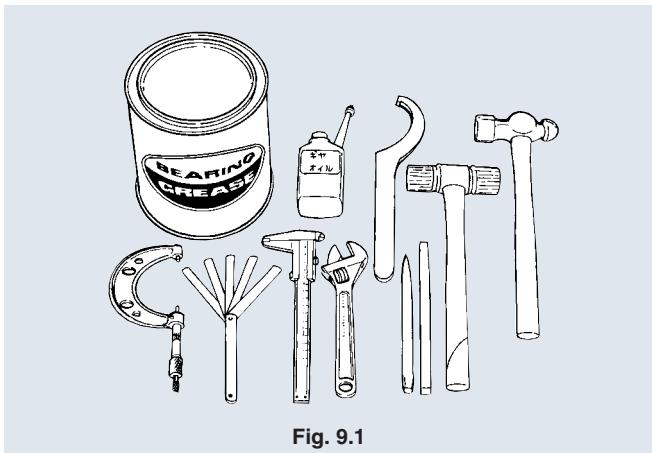

Fig. 9.1
- (1) Prepare installation tools, measuring instruments, oil stone, lubricant and factory cloth. Before the installation work, remove dust and impurities from these tools. (**Fig. 9.1**)